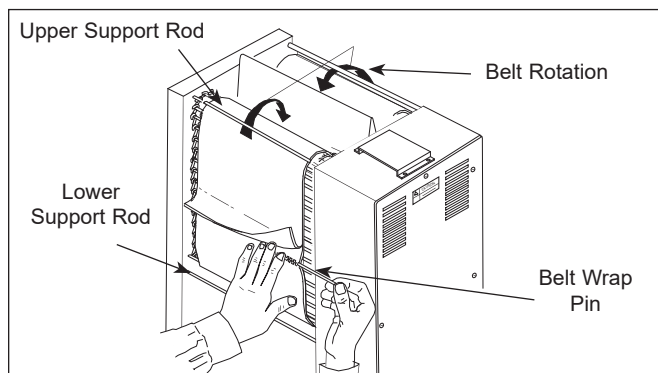

Figure 7. Installing Belt Wrap
3. Open both Conveyor Covers and pull the Belt Wrap Pin out of the zipper (Figure 7).
6. Install the new Belt Wraps around the Conveyor Belt Chains inside the Upper and Lower Support Rods with the zipper flap exposed and hanging down (Figures 7 & 8). Make sure the Belt Wrap clips are secured to the Conveyor Belt Chain. Then, connect the ends of the Belt Wraps with the connecting pin.